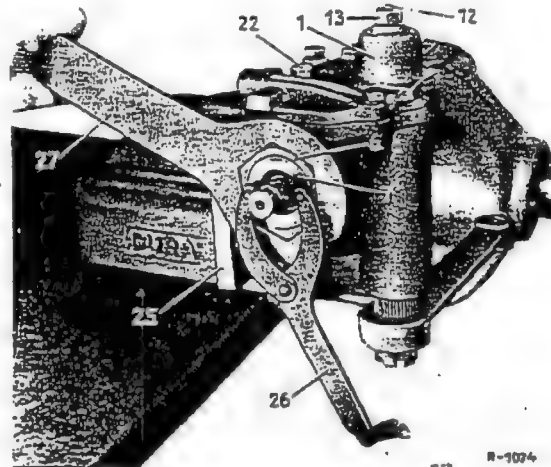

Fig. 46-4/2
Pin Wrench 000 589 00 05 to tighten the adjusting ring (7) until the specified end play of the steering worm is obtained (Figs. 46-4/1 and 46-4/2). Then tighten the hexagon nut, at the same time holding the adjusting ring steady in order to ensure that the adjustment is not changed. Again check the end play as described in para 3.